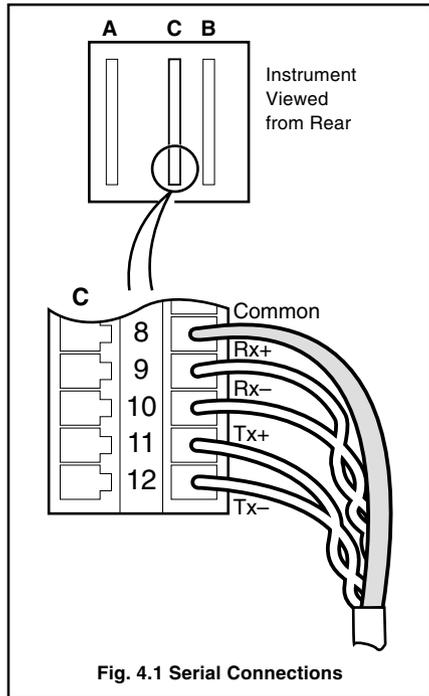

Fig. 4.1 Serial Connections
4.1 Serial Connections – Figs. 4.1 and 4.2
Make serial data connections as shown in Fig. 4.1. The type of cable used is dependent on the transmission speed and cable length: